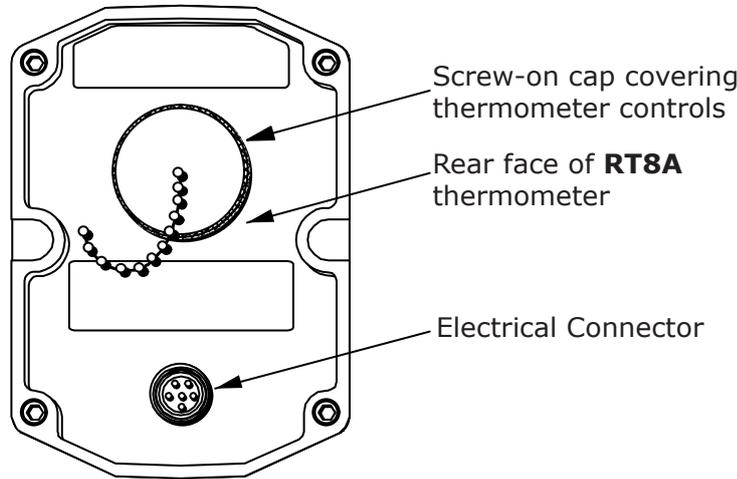

Fig. 10 Location of RT8B thermometer controls screw-on cap
- 2) Unscrew the small circular cap at the rear of the thermometer to reveal the emissivity and time response controls (See Fig. 10).